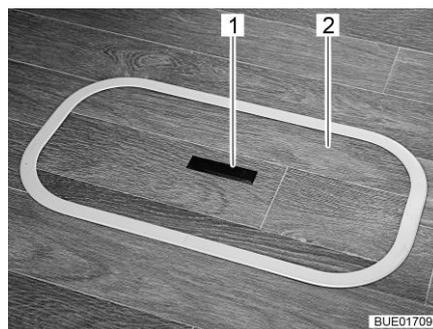
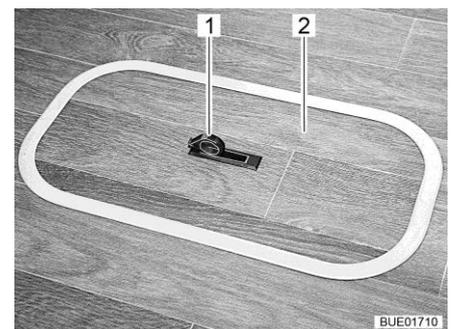

Fig. 44 Floor compartment cover
Fig. 45 Floor compartment cover
- Push one side of the grip plate (Fig. 44,1) downwards. The handle (Fig. 45,1) swivels upwards.
- Remove the cover (Fig. 44,2 or Fig. 45,2) upwards.